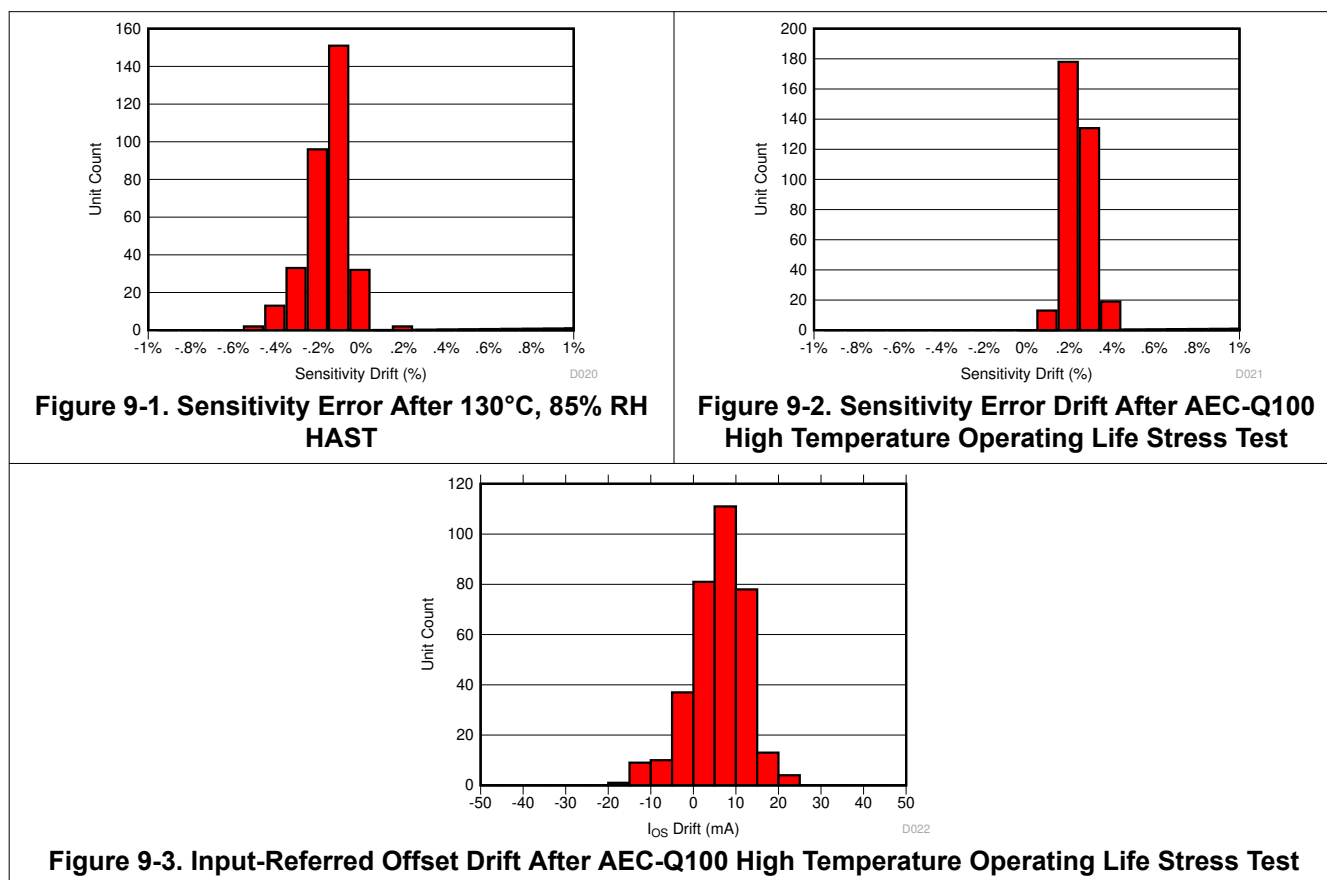

Figure 9-1. Sensitivity Error After 130°C, 85% RH HAST
The same compensation techniques utilized in the TMCS1107 to reduce temperature drift also greatly reduce lifetime drift due to aging, stress, and environmental conditions. Typical magnetic sensors suffer from up to 2% to 3% of sensitivity drift due to aging at high operating temperatures. The TMCS1107 has greatly improved lifetime drift, as defined in the Electrical Characteristics table for total sensitivity error measured after the worst-case stress test during a three lot AEC-Q100 qualification. All other stress tests prescribed by an AEC-Q100 qualification caused lower than the specified sensitivity error, and were within the bounds specified within the Electrical Characteristics table. Figure 9-1 shows the total sensitivity error after the worst case stress test, a Highly Accelerated Stress Test (HAST) at 130°C and 85% relative humidity (RH), while Figure 9-2 and Figure 9-3 show the sensitivity and offset error drift after a 1000 hour, 125°C high temperature operating life stress test as specified by AEC-Q100. This test mimics typical device lifetime operation, and shows the likely device performance variation due to aging is vastly improved compared to typical magnetic sensors.